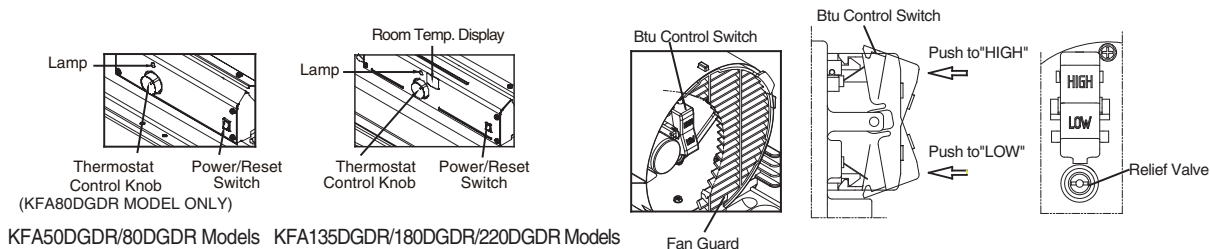

Figure 8. Controls for All Models
- 4) Position the Handles on top of fuel tank flange. Insert screws through handles, fuel tank flange and wheel support frames as shown in Figure 8 and attach nut finger tight after each screw is inserted.
5. Push “BTU control Switch” to desired level “High or LOW” (See Figure 8.) (KFA135/180/220DGDR Models Only)